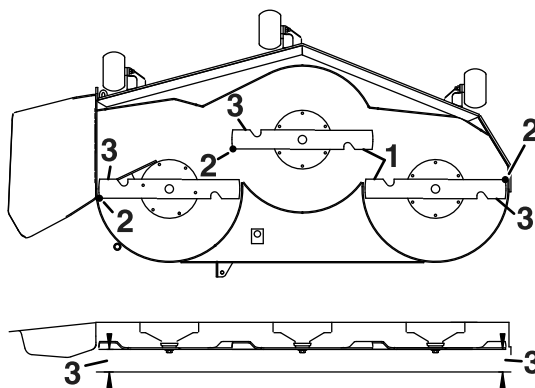

Figure 71
5. Measure between the outside cutting edges and the flat surface (Figure 71).